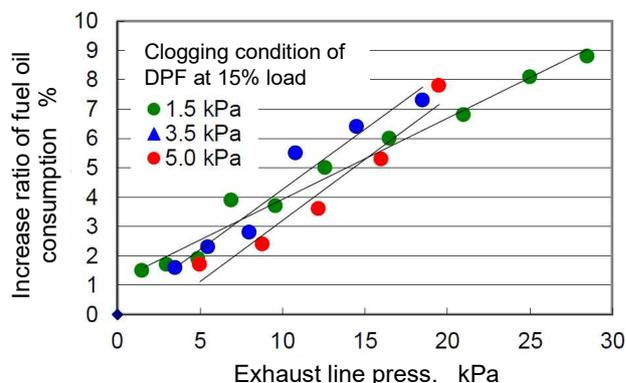

Fig. 2 Relation between exhaust line pressure and increase ratio of fuel oil consumption
- (2) As shown in Figure 2, fuel oil consumption increases by 8% when exhaust line pressure increase up to 20 kPa. The function of turbo charger decreases because the flowing quantity of exhaust gas decreases when the passage of DPF narrows. As a result, combustion deteriorates and fuel oil consumption increases because the amount of the supply of oxygen necessary for combustion decreases.